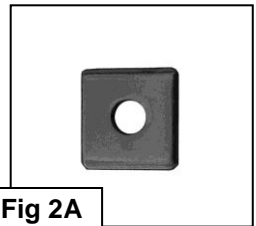

Fig 2A
- b. Insert (1) 12mm x 35mm Hex Bolt, (1) 12mm Lock Washer and (1) 12mm Square Spacer into the rear hole in the bottom of the frame and up into the factory nut plate, **(Figures 2A & 2B)**. Leave completely loose. Select the driver side Frame Mounting Bracket. Slide the slotted end of the Bracket under the Hex Bolt and Square Washer. Insert (1) 12mm x 35mm Hex Bolt, (1) 12mm Lock Washer and (1) 12mm Flat Washer into the remaining forward hole in the Bracket and into the Nut Plate, **(Figure 3)**. Snug but do not tighten the hardware at this time.
- c. Insert (1) 12mm x 35mm Hex Bolt, (1) 12mm Lock Washer and (1) 12mm Square Spacer into the rear hole in the bottom of the frame and up into the Double Nut Plate, **(Figures 2A & 2B)**. Leave completely loose. Select the driver side Frame Mounting Bracket. Slide the slotted end of the Bracket under the Hex Bolt and Square Washer, **(Figure 3)**. Insert (1) 12mm x 35mm Hex Bolt, (1) 12mm Lock Washer and (1) 12mm Flat Washer into the empty remaining forward hole in the Bracket and Nut Plate. Snug but do not tighten the hardware at this time.